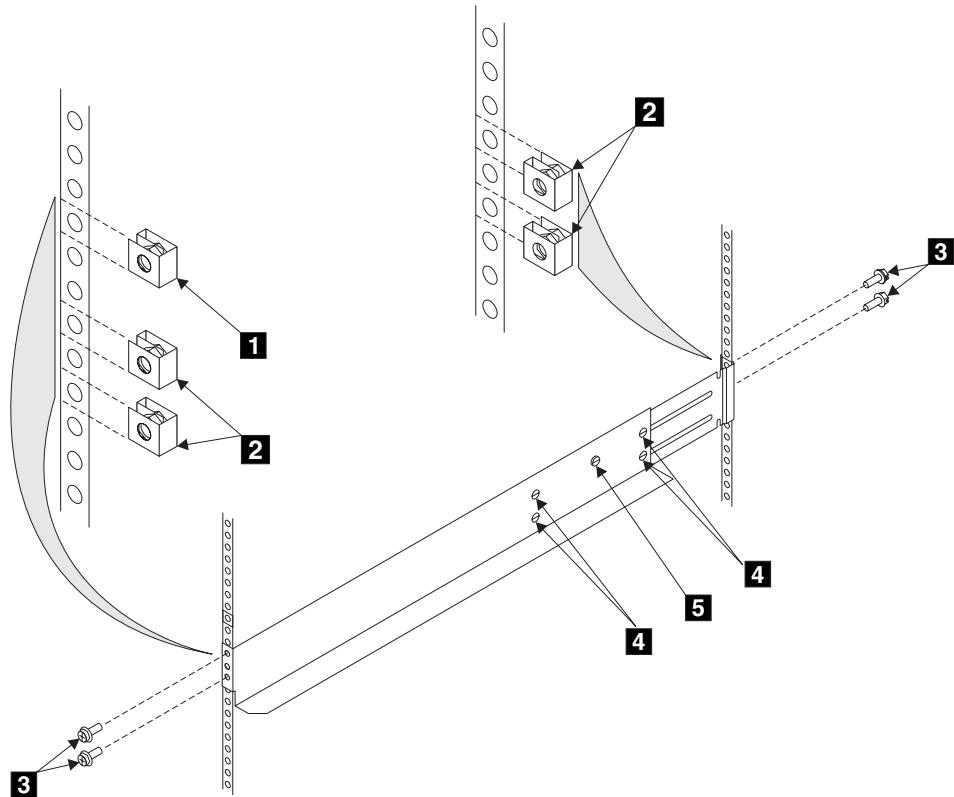

Figure 2. Installing the Support Rails
4. Refer to Figure 2.
Note: These are the screws identified as **5 in Figure 2 on page 6.**